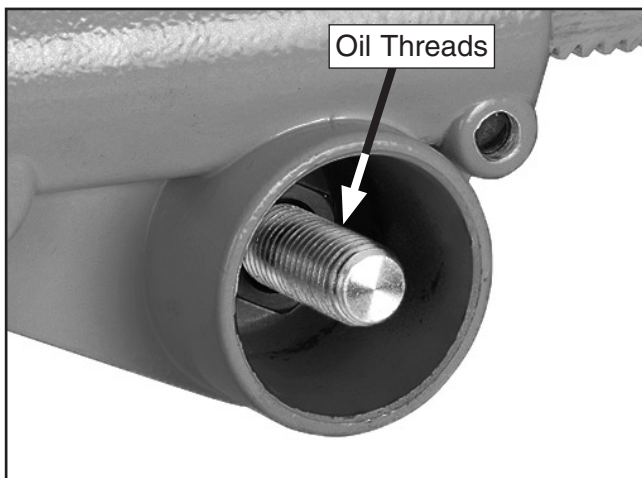

Figure 12. Arm bracket handle threads.
14. Lightly oil the T-handle threads shown in **Figure 12**.